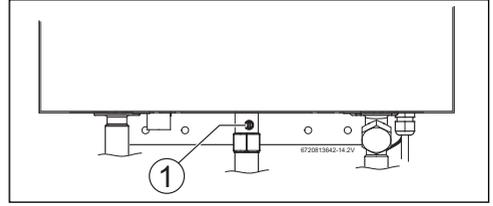

Fig. 23 Gas pressure test port
- ▶ Locate the inlet gas pressure test port (see Fig. 23).
- ▶ Loosen the screw inside test port fitting (do not remove) and connect the manometer tube to the test port (see fig. 23).